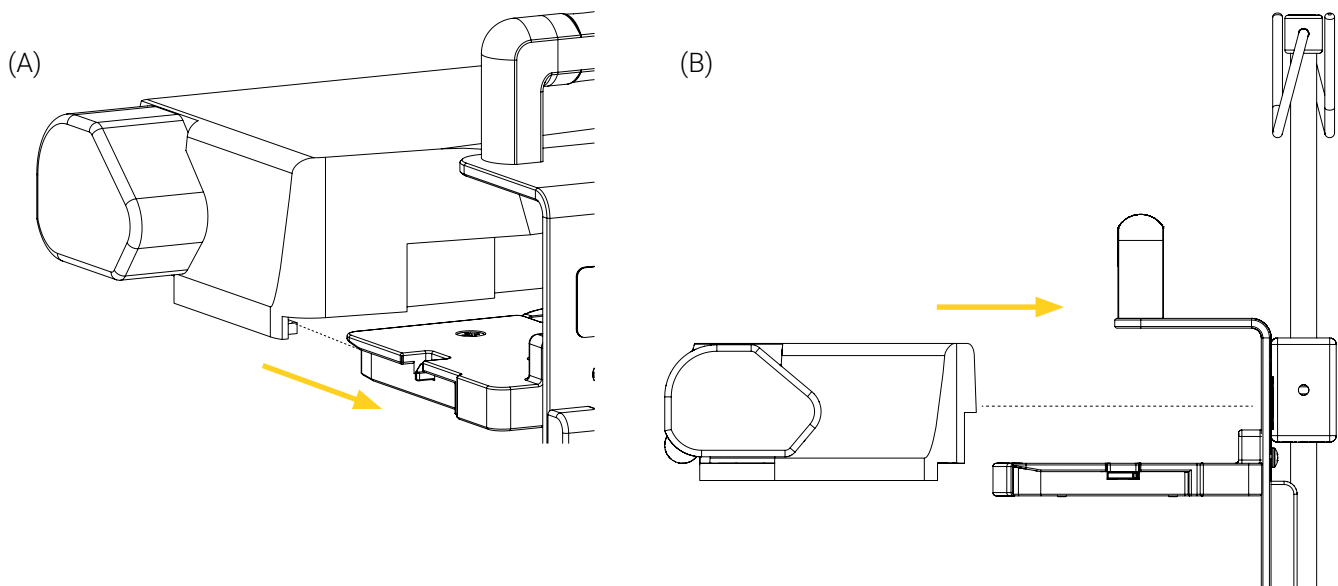

Figure 6: Installing the pump on the pump shelf
1. Align the bottom grooves under the pump with the pump shelf of your choice, then push the pump until the safety mechanism of the shelf is activated (Figure 6).